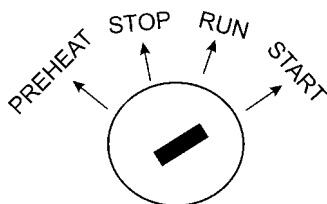

Figure 40. Engine Ignition Switch
9. If the generator is equipped with a ignition switch, turn the key to "Start" position (Figure 40). Once the engine starts, release the key to the "on" position.